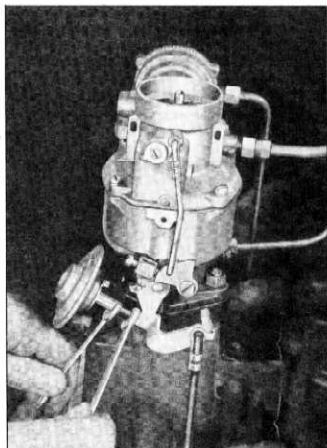

Fig. 109—Throttle Return Check Adjustment
5. Using a $\frac{9}{32}$ " wrench on the flat sections of throttle return check shaft, hold the shaft from turning and with a $\frac{3}{8}$ " wrench, turn the adjusting screw until it just contacts the throttle lever contact arm (fig. 109).